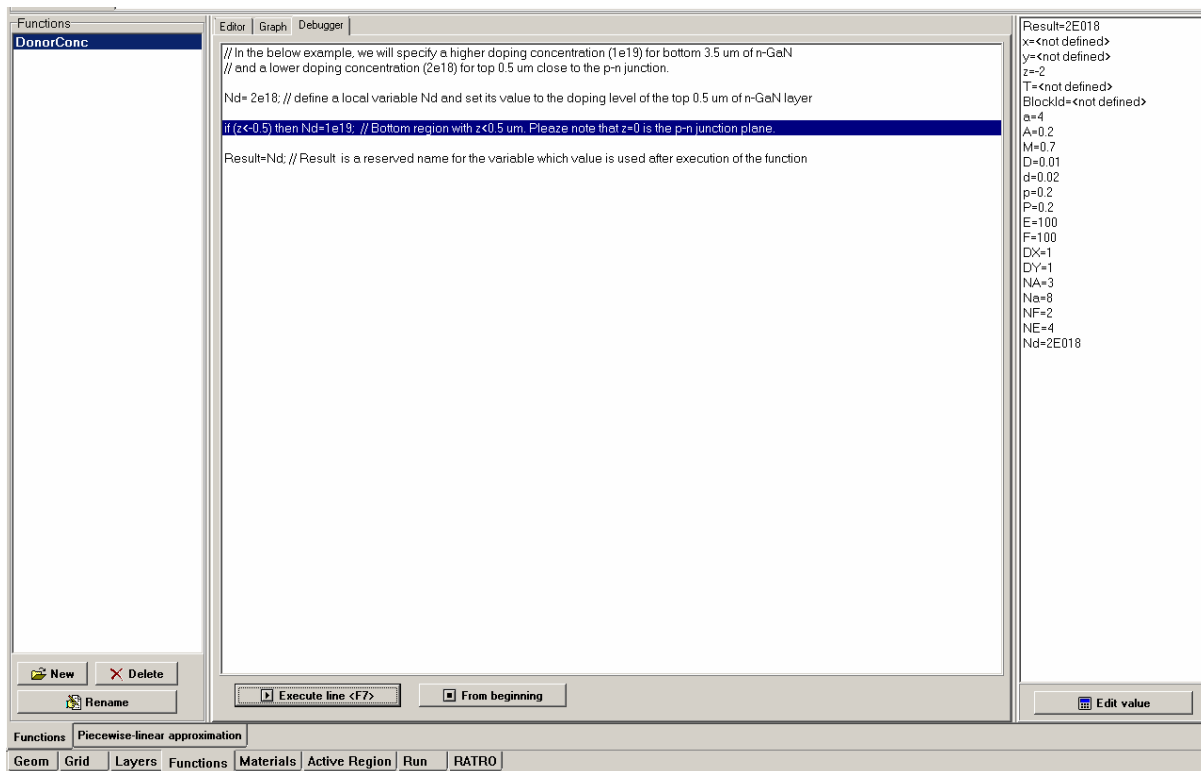

Fig. 42
- Tab **Debugger** allows the user to trace the code execution and check the intermediate results. It contains the following items (see Fig. 42):